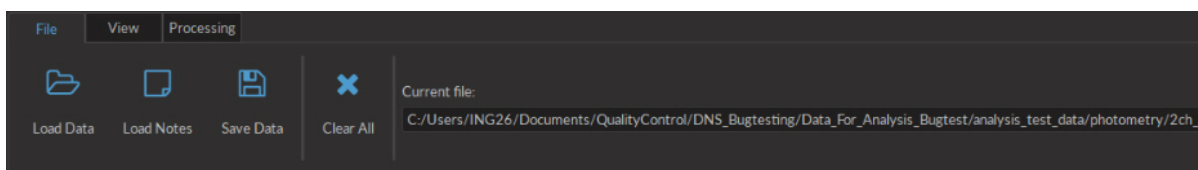

Figure 3.29: File tab
1. The **File Tab** (Fig. 3.29) is used to load/save data,